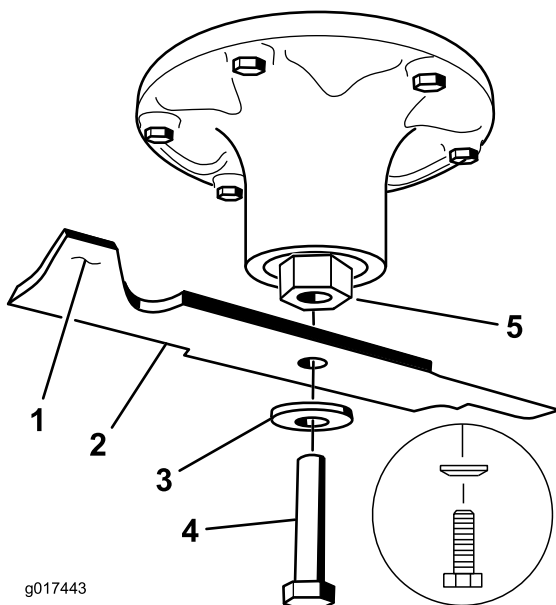

Figure 77
2. Remove the blade bolt, curved washer, and blade from the spindle shaft (Figure 77).
1. Install the blade onto the spindle shaft (Figure 77).
2. Install the curved washer and blade bolt (Figure 77).